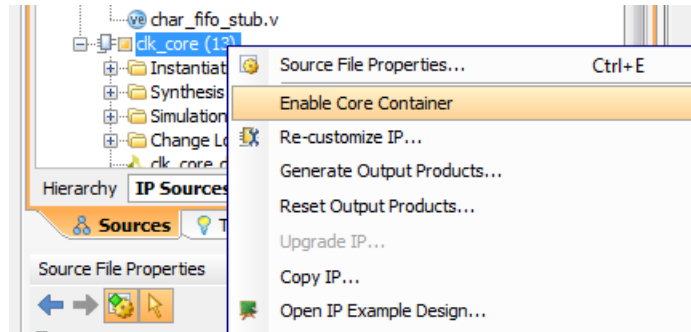

Figure 2-9: **Enabling Core Container for an IP**
- If you have an existing IP that you want to use the Core Container format, select the IP from the IP Sources tab, right-click, and select **Enable Core Container** as shown in Figure 2-9, page 21.